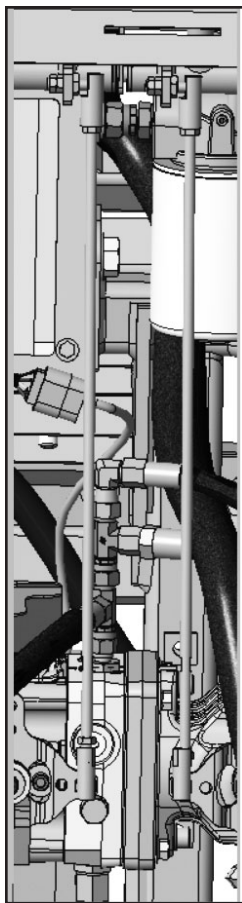

Figure 40: Drive control rods
- If adjustment is needed to drive handles loosen jam nuts with ½” wrench and turn control rod to proper length. Retighten jam nuts to lock rod in place. See **Figure 40**